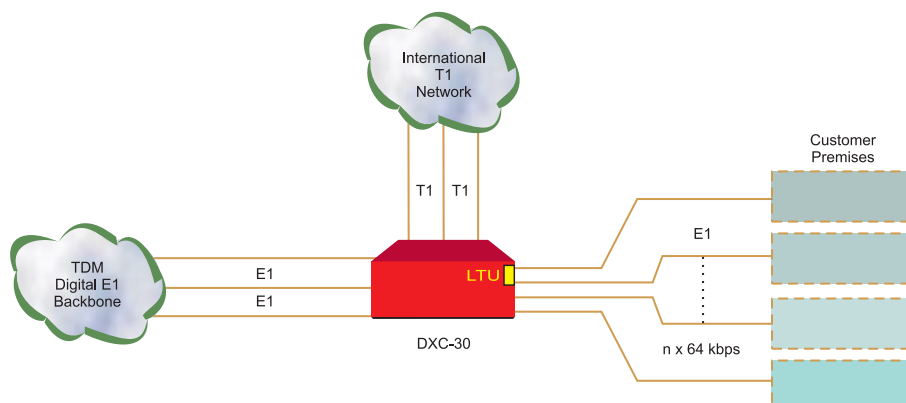

Figure 3. T1/E1 Conversion and Access to Carrier Backbone
- Providing conversion/gateway between T1 and E1 networks for both data and voice (see *Figure 3*).